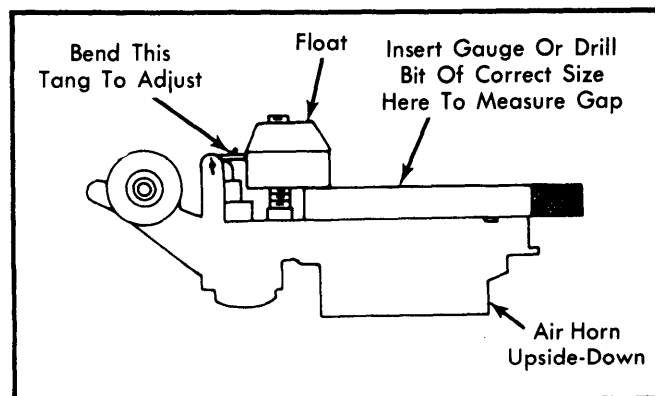

Fig. 1 Adjusting Float Level
1) Remove air horn and gasket. Turn air horn upside down. Allow weight of float to press down against float needle valve. See Fig. 1.